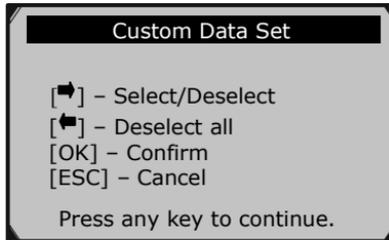

Figure 5.16
2. Observe on-screen instructions. (See **Figure 5.16**). Press the **OK** button to continue; press the **ESC** button, or use **Left/Right** button to select **NO** and press the **OK** button to return to **Record Data** menu.